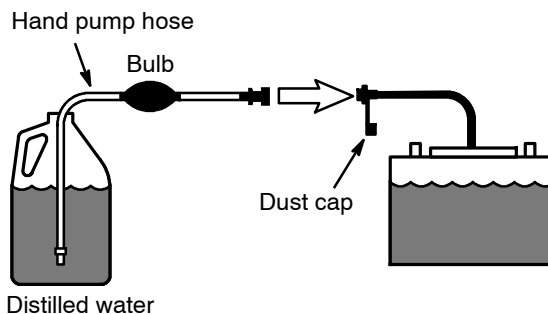

Fig. 7
3. To add water to batteries, remove the dust cap from the battery water tube manifold and connect the hand pump hose (Figure 7).